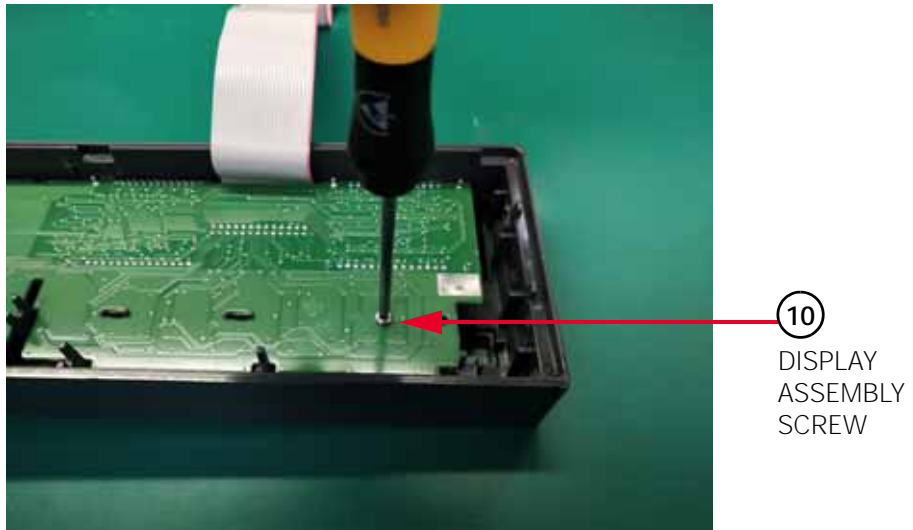

Figure 3-20 Remove/Install display screw
- 14 Refer to Figure 3-20. Use the #TX10 Torx driver to remove the single Torx screw from the Display assembly.
- 3 Refer to Figure 3-20. Use the #TX10 Torx driver to install the screw on the Display assembly.